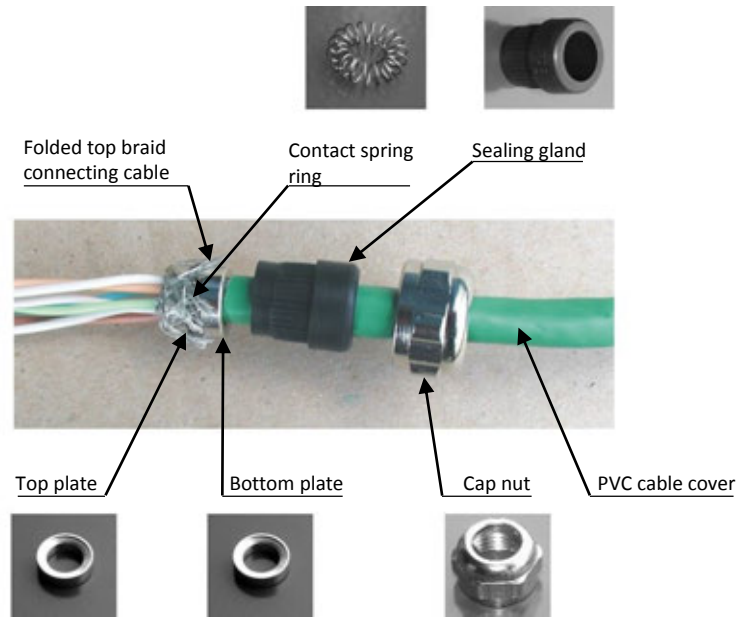

Figure 26 The grommet installation
- The twisted shield will be untwisted and released somewhat. Then it will be pulled over the washers on the cable and shortened at the bottom washer (figure 26). No wire of the shielding must go over the bottom washer, in order to tighten the sealing grommet by the pull-over nut well on the cable, and thus seal the grommet properly.